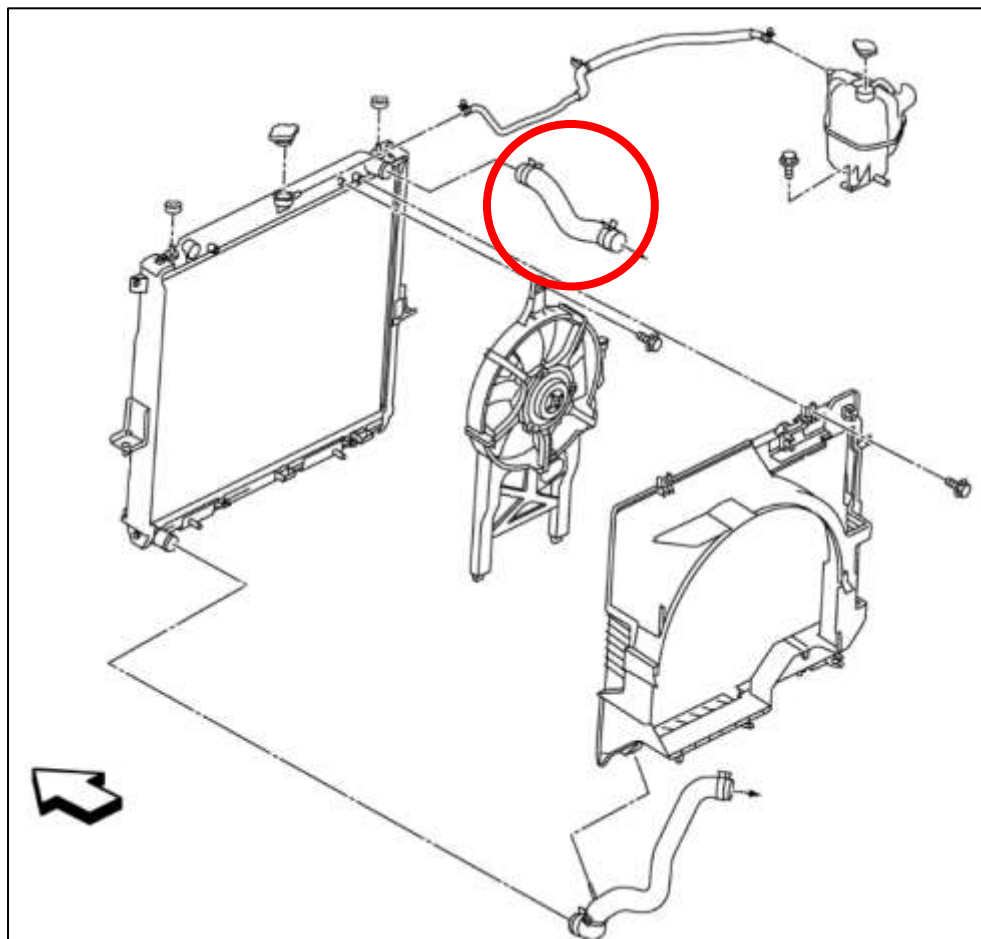

Figure 5
10. After coolant is drained, remove the OE Coolant Hose (circled in *Figure 5* below) from the radiator. Retain the Hose Clamps as they will be reused.